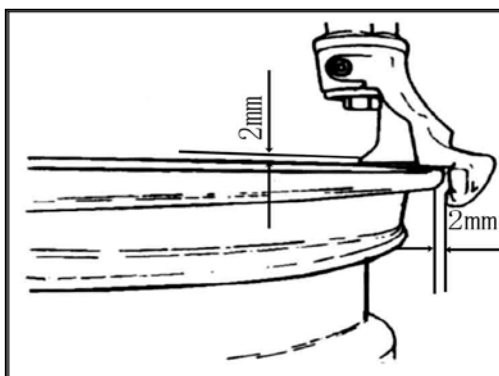
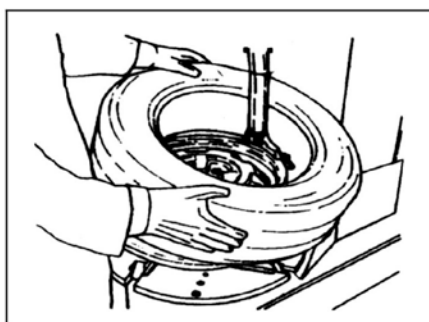

FIG 20
FIG 22
f) Press the lock handle press button (FIG3-3) to lock horizontal arm and hexangular shaft and the hexangular shaft will automatically move upwards. The quadric shaft will automatically backward a little to make the demount tool detached from the rim of the rim to avoid the damage on the rim (FIG20).
g) Use the crowbar to detach until the lip to the hump of the demount tool (FIG20). Step the turntable rotation pedal (FIG3-15) to rotate the turntable clockwise until the rim of the wheel fall off.
contacted rim (FIG20). Position the left of the lip above the tail of the demount tool and the right under the hump of the demount tool (FIG22).